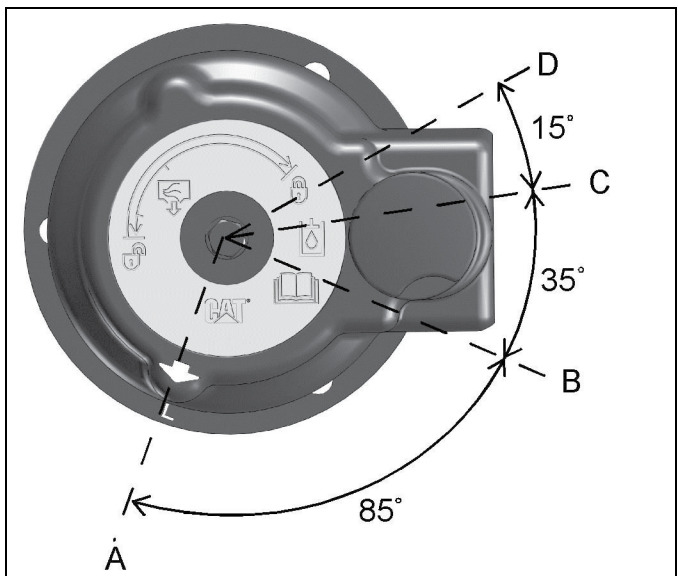

Figure 10-132: Filler Cap
5. Release the pressure that may be present in the return hydraulic circuit with the following procedure. Refer to Figure 10-132 for filler cap positions.
- a. Turn the filler cap counterclockwise and move the arrow from position (A) to position (B).
- b. Release the pressure for a minimum of 45 seconds by moving the arrow from position (B) to position (C).
- c. Move the arrow from position (C) to position (D).